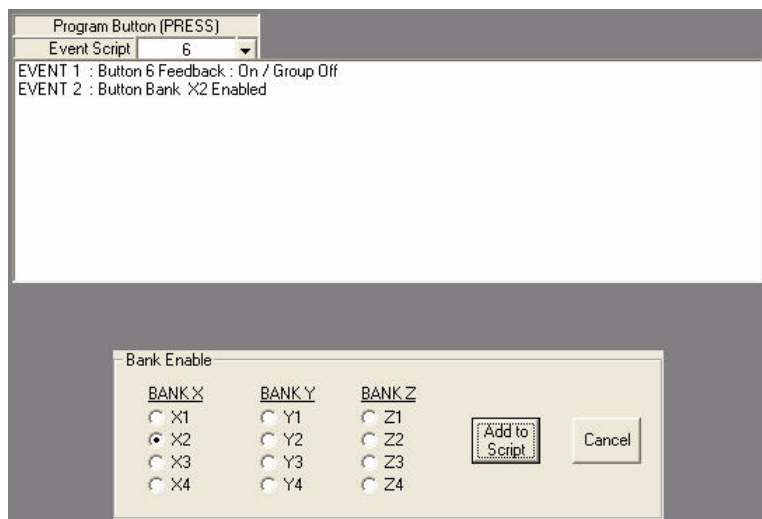

FIG. 96 Button 6 script, with Enable X2 Bank selected
5. Write a Script for Button 6 and include Enable Bank X2 (FIG. 96).